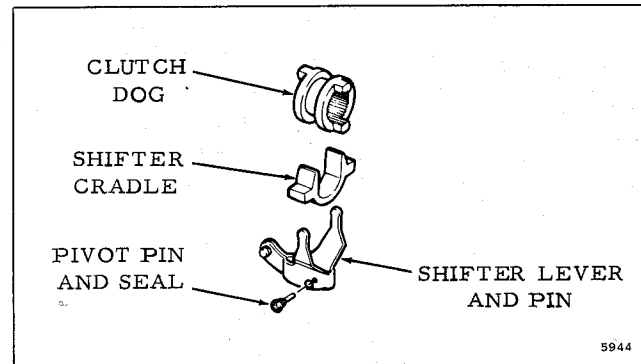

Figure 6-19. Shift Lever, Dog, and Cradle
j. Remove shift lever pivot pin, cradle, clutch dog, and shift lever. See Figure 6-19.